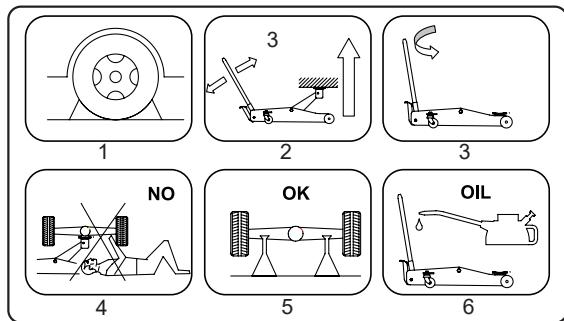

Fig. 02
- Make sure that no person stays in the car that will be lifted. Turn off the engine and put on the handbrakes of the car. Use wedges to prevent the car from moving (Fig.02(1)). Do not get into the car and do not turn the engine on.
- Always position the lifting jack in such a way that it cannot be operated from underneath the car (Fig.02(4)).
- Use the lever rod or the foot pedal to bring the lifting device to the desired height (Fig.02 (2)). Make sure that the hydraulic valve is closed. For this purpose it is necessary to fasten the lever rod clockwise.
- In order to lower the load turn the lever rod slowly anticlockwise (Fig.02(3)).
⚠ WARNING Never use the lifting jack in order to move the car or to leave it lifted. Always use chassis stands (Fig.02(5)).